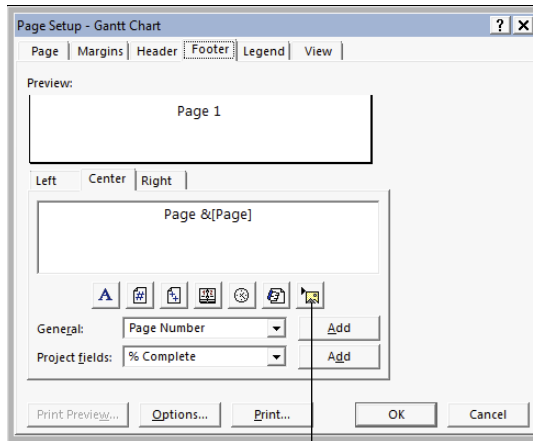

Figure 18-9:
4. Click the **Insert Picture** button, as shown in Figure 18-9.